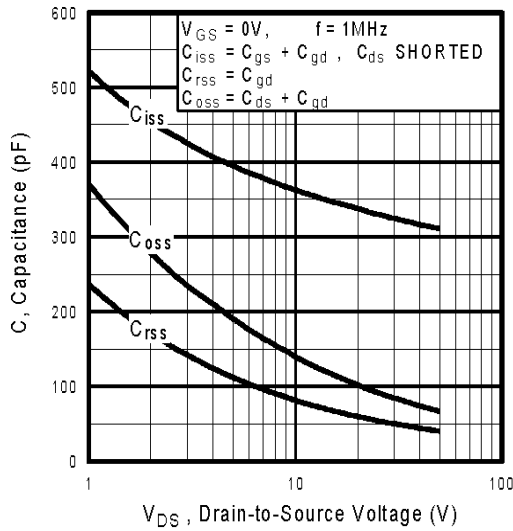

Fig 5. Typical Capacitance Vs. Drain-to-Source Voltage
| C _{rSS} | Reverse Transfer Capacitance | — | 54 | — | | f = 1.0MHz, See Fig. 5⑥ |